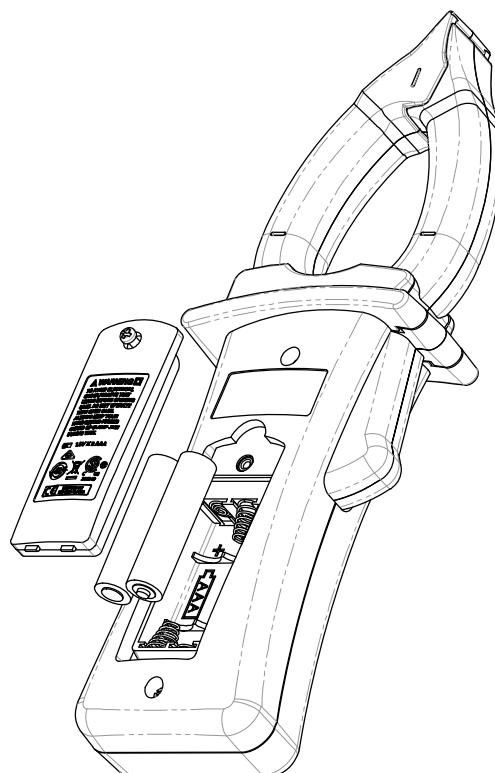

Figure 1-1 **Installing the batteries**
- 1 Open the battery cover.** Loosen the screw with a suitable Phillips screwdriver and remove the battery cover as shown in Figure 1-1.